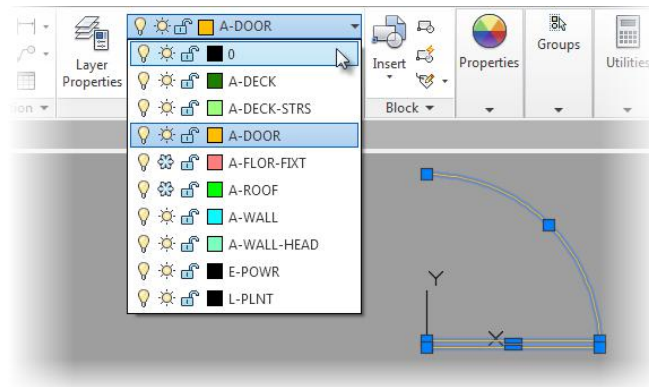

FIGURE 7.7: Changing the door's layer inside the Block Editor
11. Select the door and swing inside the Block Editor, and change its layer to layer 0 by using the Layer drop-down on the Home tab ➤ Layers panel (see Figure 7.7).